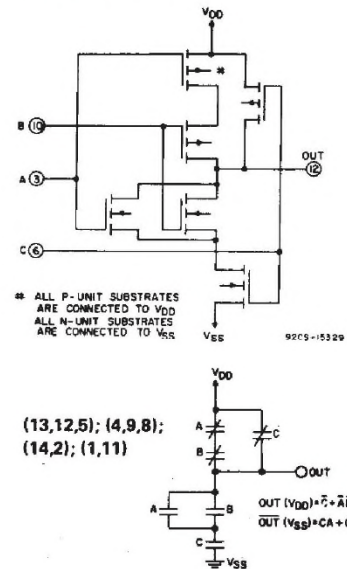

Fig. 2 — Sample CMOS logic circuit arrangements using type CD4007UB.
■ CD4007UB types are comprised of three n-channel and three p-channel enhancement-type MOS transistors. The transistor elements are accessible through the package terminals to provide a convenient means for constructing the various typical circuits as shown in Fig. 2.